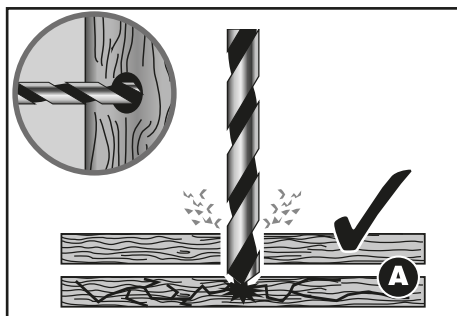

FIG.12
9.8 DRILLING WOOD AND PLASTIC (as per section 9.2, page 13) – FIG. 12